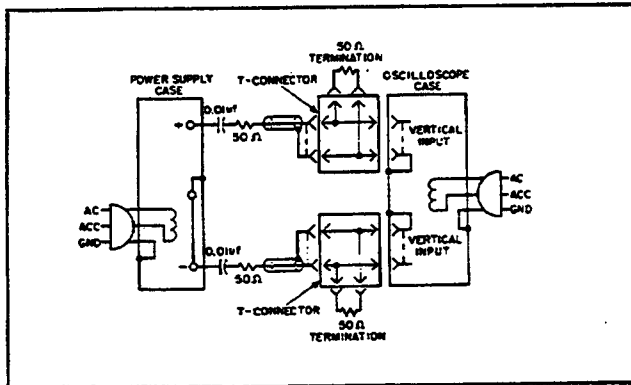

Figure 5-7. CV Noise Spike, Test Setup
- As shown in Figure 5-7, two coax cables, must be substituted for the shielded two-wire cable.
5-33 The circuit of Figure 5-7 can also be used for the normal measurement of low frequency ripple and noise; simply remove the four terminating resistors and the blocking capacitors and substitute a higher gain vertical plug-in in place of the wide-band plug-in required for spike measurements. Notice that with these changes, Figure 5-7 becomes a two-cable version of Figure 5-6C.